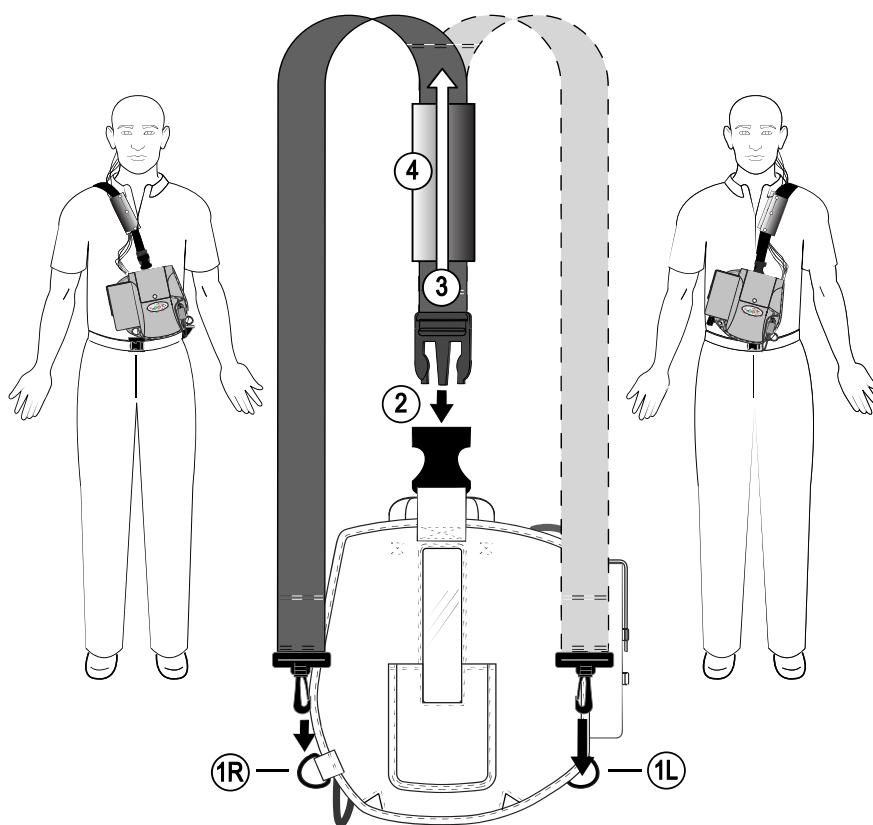

Figure 1.
1. Clip the shoulder strap to the bottom fastening loop; (**1R**) for the right shoulder or (**1L**) for the left shoulder (Figure 1).